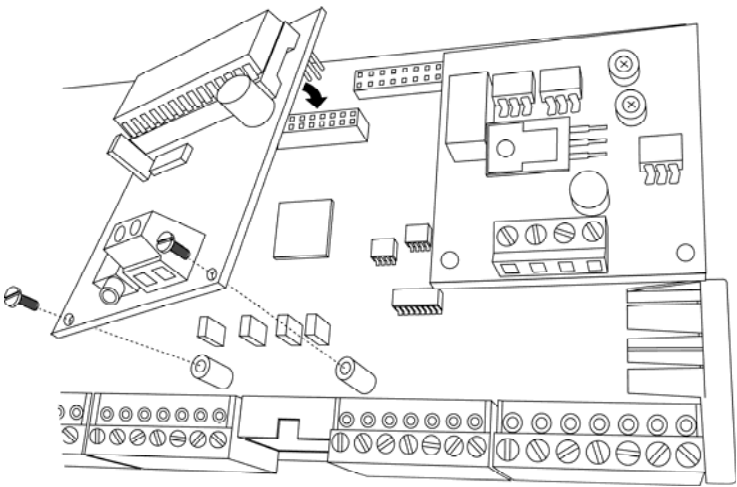

Figure 14 – Speech synthesis card mounting
- Insert the comb connector in the appropriate motherboard connector (figure 14).